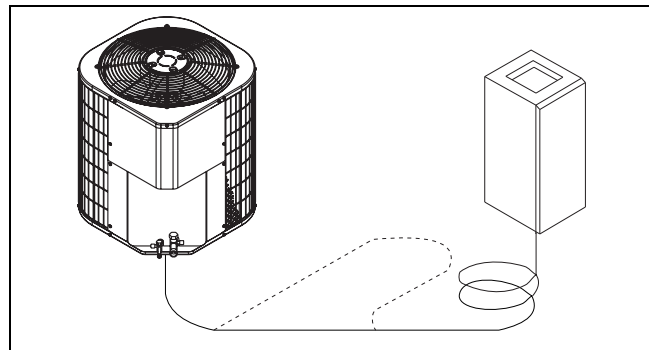

FIGURE 3: Excess Tube
- b. Excess tubing must be coiled horizontally so the flow of refrigerant is from top to bottom of the coil and toward the outdoor unit. Another method is to form a horizontal "U" large enough to take care of excess. See Figure 3.